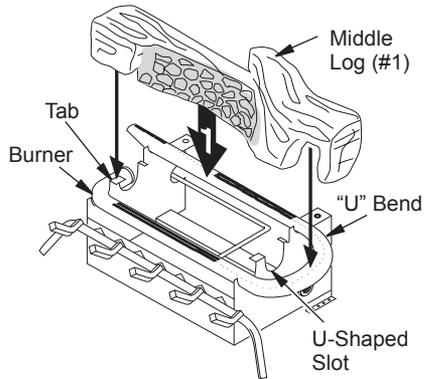

Figure 25 - Installing Middle Log (#1)
1. Place base of middle log (#1) in U-shaped slots of grate base. Cutout on right of middle log should fit over burner (see Figure 25). Make sure front of middle log is resting on tabs of grate base and cutout area is centered over burner "U" bend.